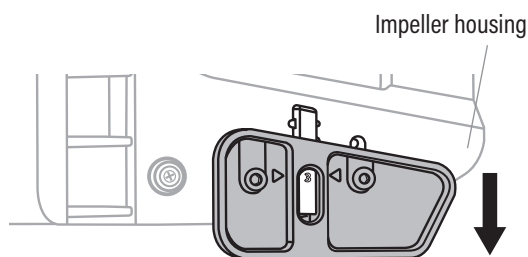

Fig. 1B
- To avoid wear and tear when on uneven surfaces, the operator needs to increase the distance from the impeller housing to the ground by moving the skid shoes downward to "2" or "3" position. (Fig. 1B)